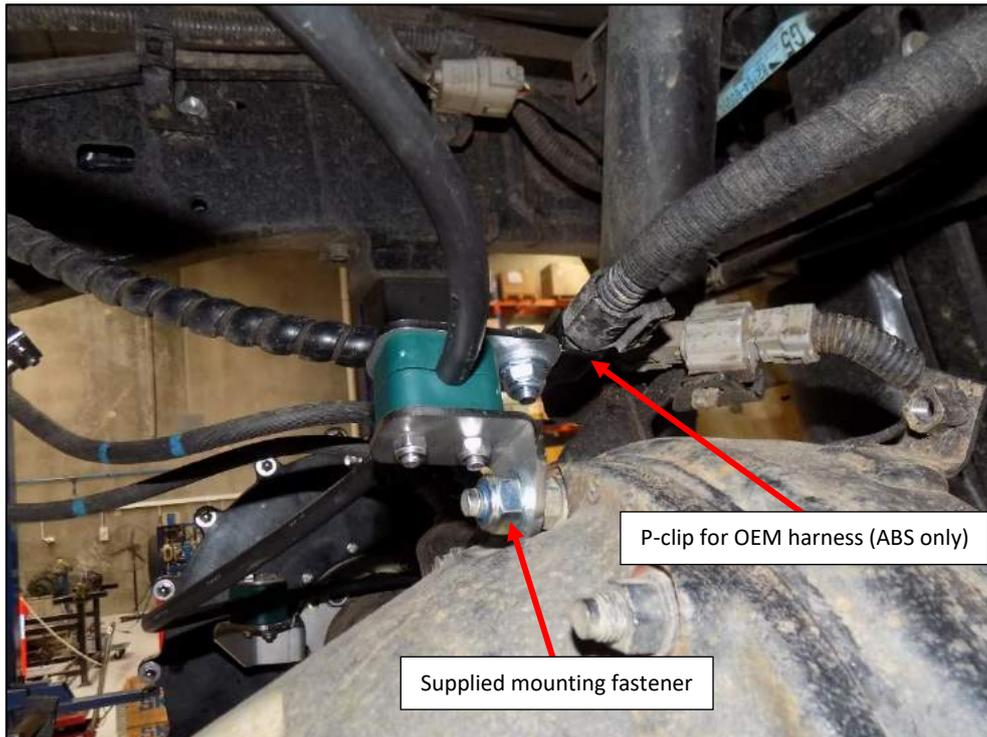

Figure 39
29. There is also a P-clip attached to the RH-2 bracket that is used to secure the OEM ABS harness (Figure 39). Do not tighten at this stage.